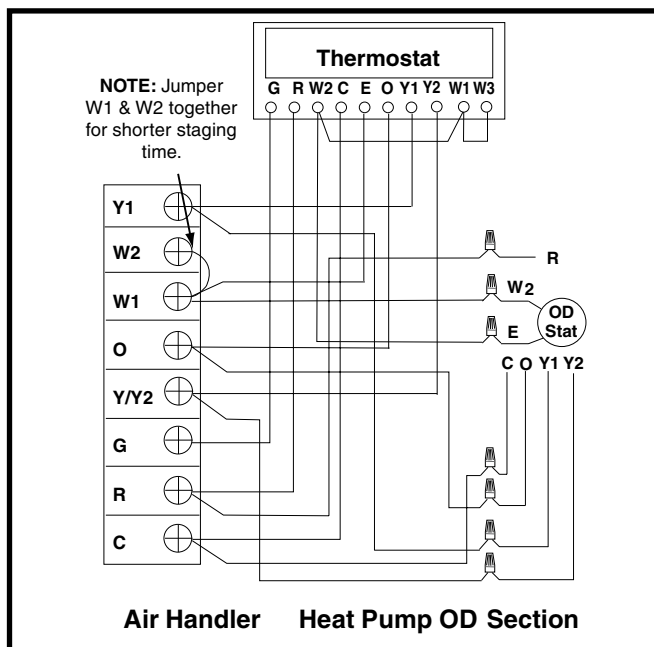

Figure 4. Typical 2 - Stage Heat Pump w/ Optional Outdoor Thermostat and Variable Speed Air Handler
- The low voltage wires must be properly connected to the units low voltage terminal block (Figure 4). Recommended wire gauge and wire lengths for typical thermostat connections are listed in Table 2.